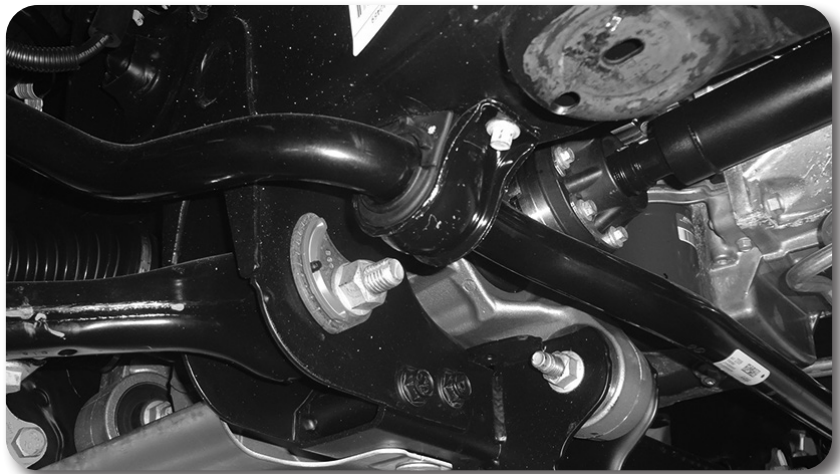

Figure 8
12. Mark the orientation of the sway bar and remove it from the frame by removing the four bushing cap mounting bolts Fig 8. Save all sway bar components, the hardware can be discarded.